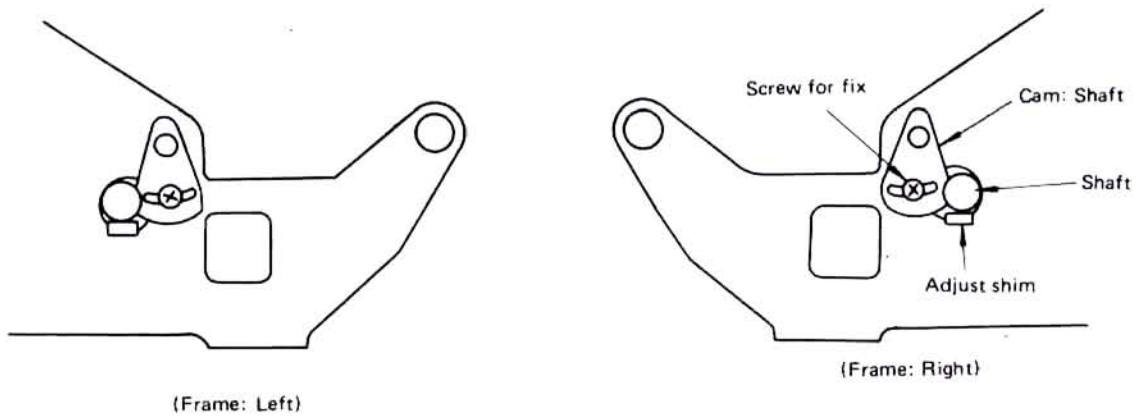

Figure 6-5.
- Loosen the cam shaft lock screws and make an adjustment by inserting or extracting adjust shims as described below. Make the adjustment at the right- or left-hand frame, see Figure 6-5.